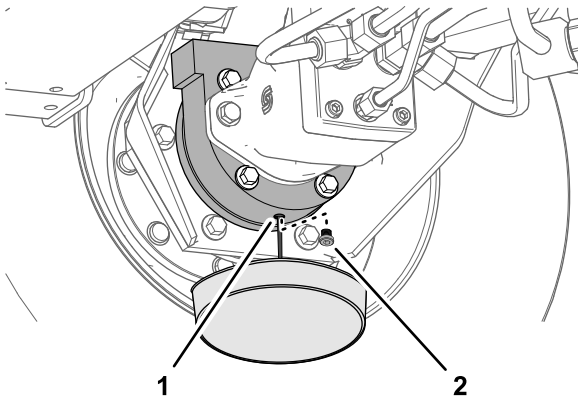

Figure 140
- Place a drain pan under the brake housing, remove the drain plug, and allow the oil to fully drain (Figure 140).